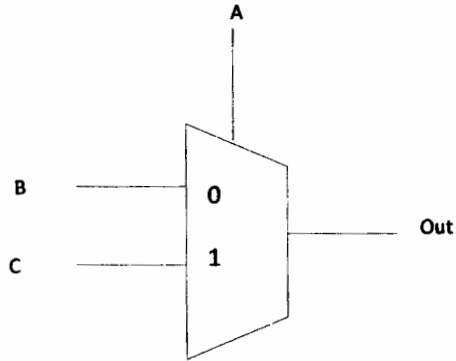

Figure 1
a) Write a Verilog module for implementing a multiplexer-based represented in Figure1.